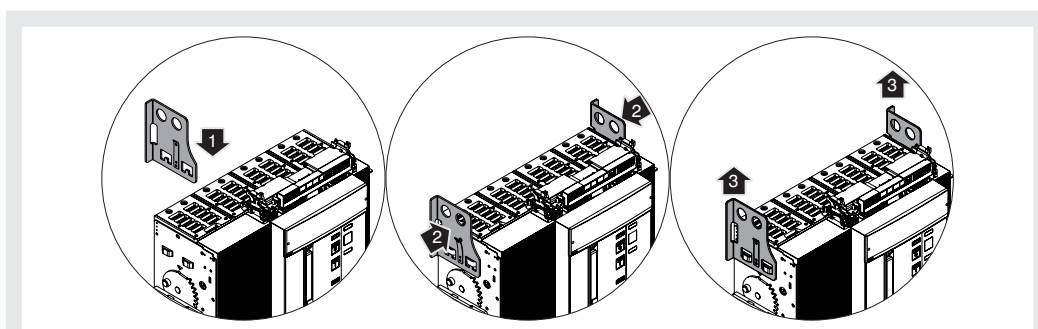

Figure 37
3. Position the lifting plates on the mobile part making sure that the tongue of the plates is latched properly. See Figure 37.